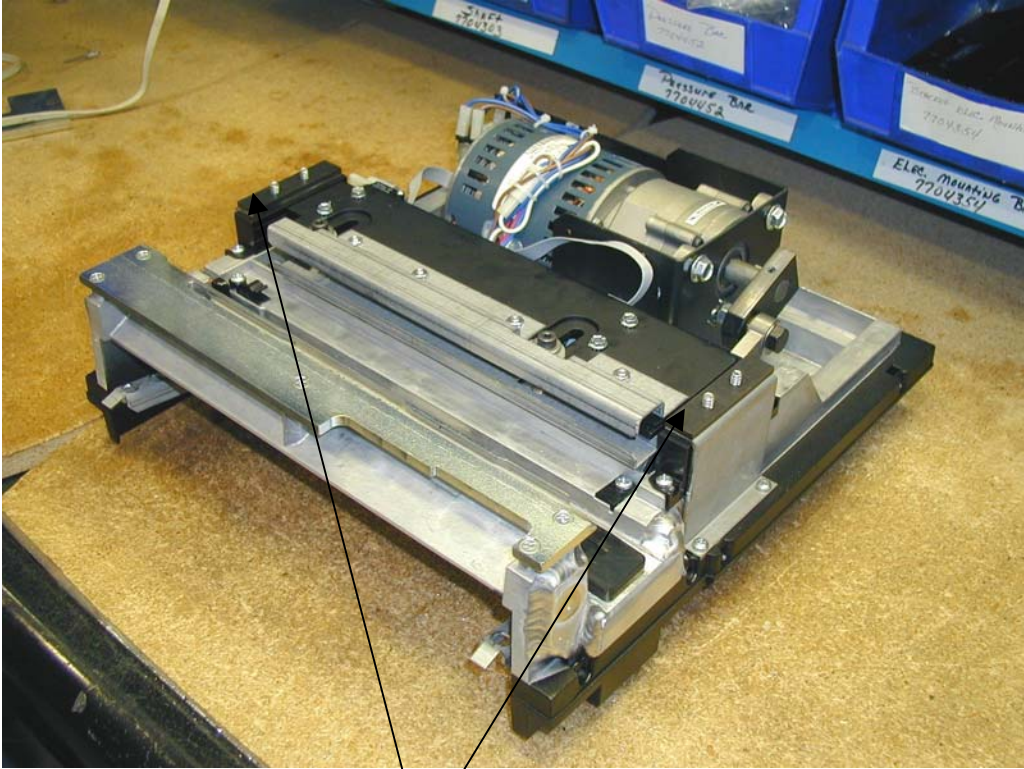

Figure 2 Z Bracket Spacer
9. Install qty. (1) Z Bracket Spacer on top of each new Z Bracket with studs. Installation of the Z Bracket Spacers is shown in Figure 2.